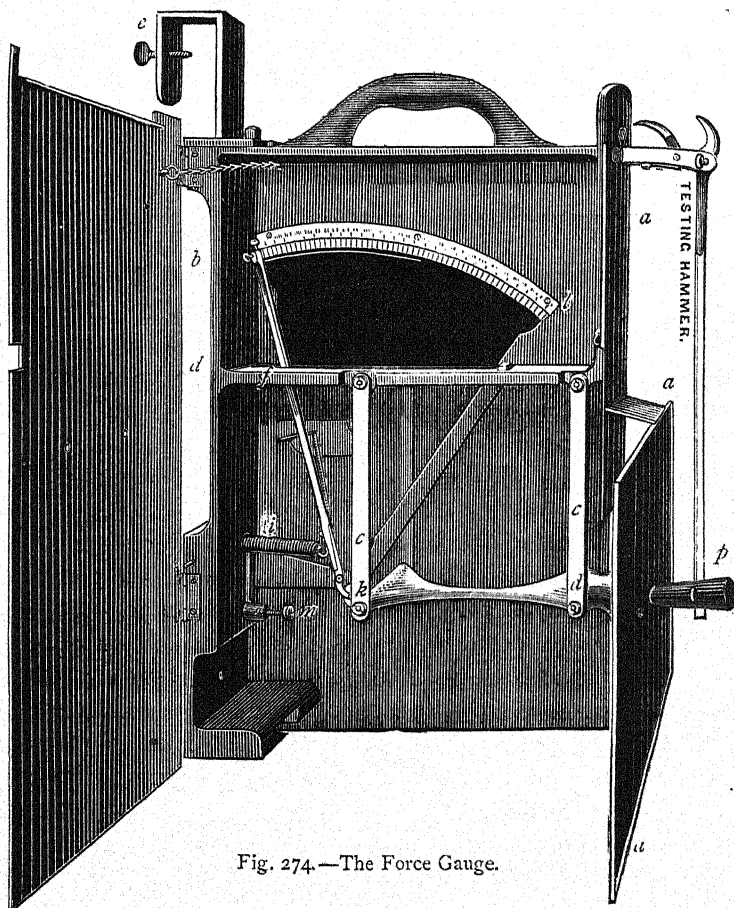
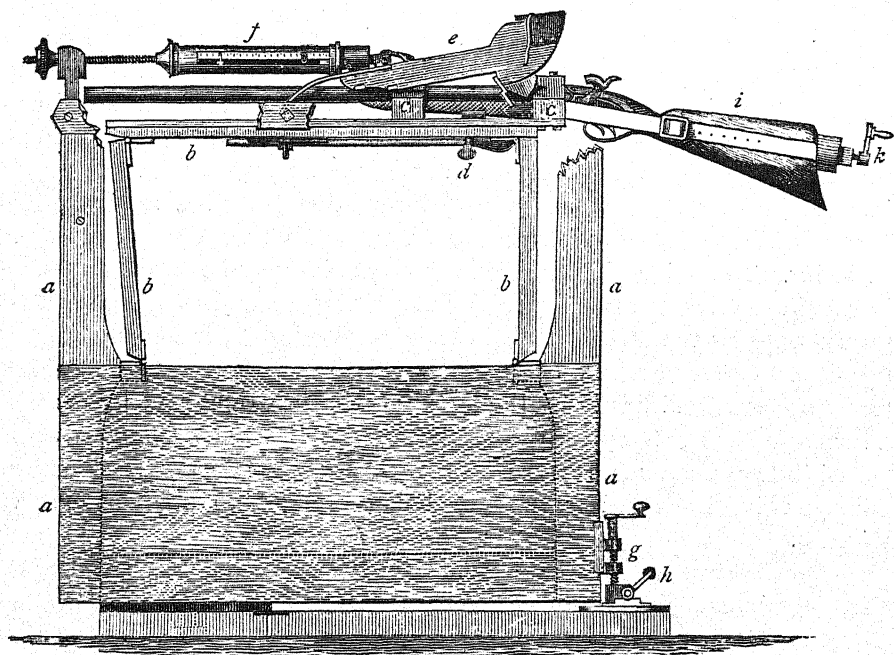

Fig. 274.—The Force Gauge.
Fig. 275. —The "Field" Machine Gun Rest.
and 20-bore. There were twelve entries in each class. The guns were fired from a machine-rest designed by the Editor of the *Field*, of which an illustration is given in Fig. 275. The penetration was registered by means of a force-gauge, also designed by the Editor of the *Field*; an illustration of this machine is shown in Fig. 274. It will be seen that the face-plate, *aa*, is a 10-in. steel target, from which the force of the pellets
*Machine-rest represented in Fig. 275.*—The frame, *aaaa*, is of ash and mahogany cut away to show. The frame being made of ash yields to the force of the explosion, and imitates the human shoulder far better than any iron or perfectly rigid machine rest. *bbbb* is a platform supported on two hinged parallel uprights; the gun is affixed to this platform or slide by the blocks, *cc*, which are cut out to receive the barrels, which are further embraced by a padded clip adjusted by the thumbscrew; *e* is a double wedge dropping down to catch shoulder of *c* when gun recoils. The recoil is registered by an ordinary steam locomotive gauge, *f*, adjusted by a screw, and having a travelling indicator. In this trial the gauge was set at 80 lbs. In setting the machine a correct aim may be taken, as the rest is capable of being moved perpendicularly by the adjusting screw, *g*, and transversely by the screw, *h*. Of course a wheel-plate is necessary in the fore-part to admit of these movements. *i*, the stock of gun fixed ready for firing, and held firmly by the leather breeching, tightened by means of a screw-pad, *k*, on the principle of the surgical instrument known as the tourniquet, when once set the gun does not require any readjustment. The gun is discharged by a cord being brought to press against the triggers.